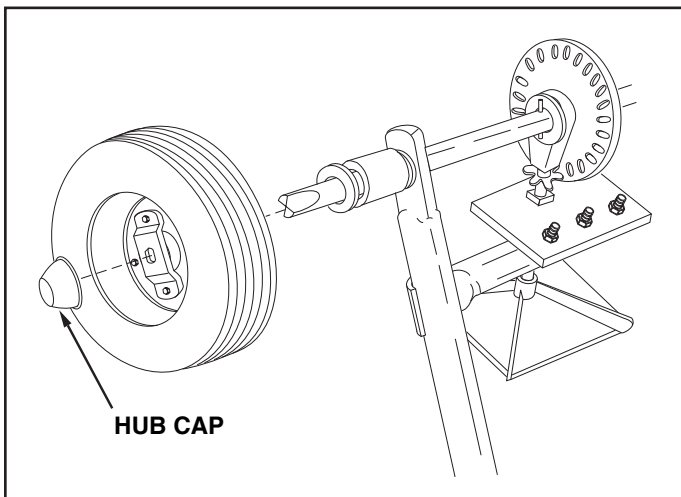

FIGURE 5
11. Place the drive wheel onto the end of the axle that has an indent. The long end of the hub goes to the inside. See figure 5.
12. Place a hub cap onto the end of the axle. Using a small hammer, lightly tap the hub cap until it is snug against the wheel. See figure 5.
1. If the axle, slotted gear and sprocket assembly is disassembled, mark down the positions of the parts as they are removed. The drive wheel and sprocket positions in relation to the slotted gear determine which direction the spreader plate will spin. Be sure to reassemble them in their original positions. (Refer to figure 5 on page 5.) Use shim washers (Ref. no. 21 on pages 10 and 11) as needed for minimum backlash. Add grease to gear and sprocket.